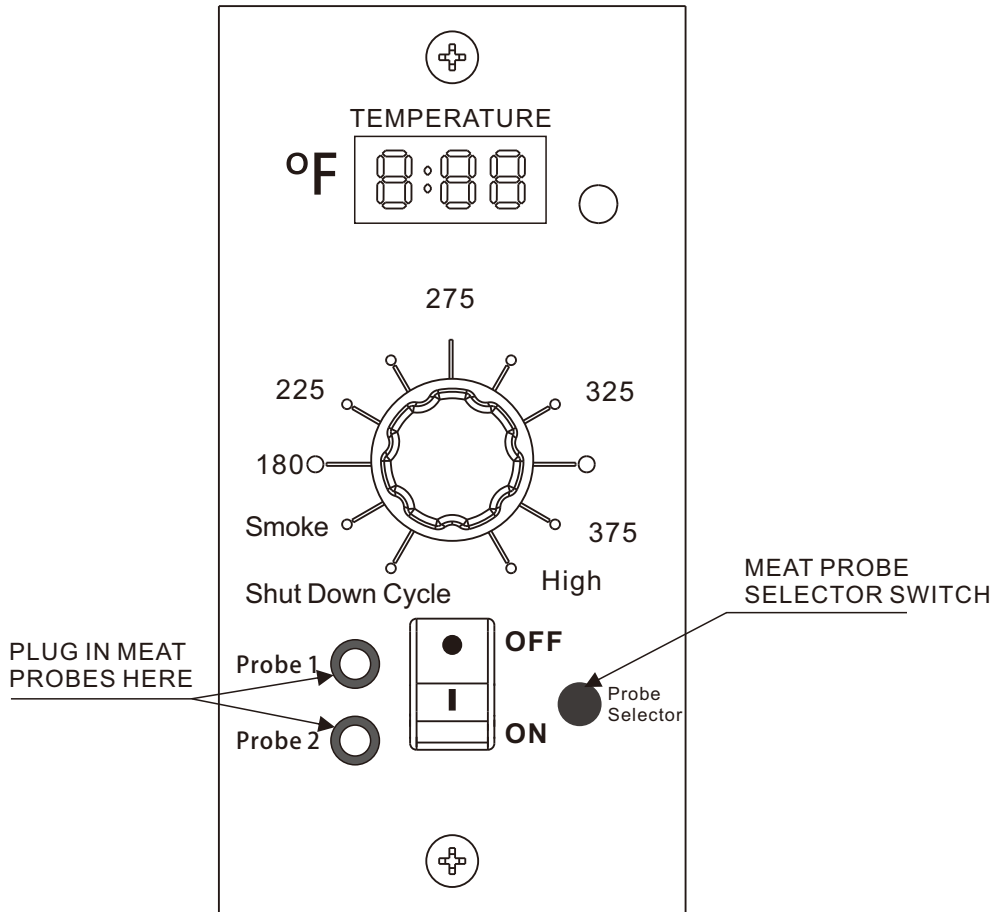

Figure 4-1
1. Insert either one or two meat probes into the plug-in receptacles located on the lower left corner of the controller as shown in Figure 4-1.
3. To read the temperature of the meat probe press the meat probe selector switch located in the lower right corner of the control as shown in Figure 4-1. The control will revert back to the barbeque temperature after 5 seconds.